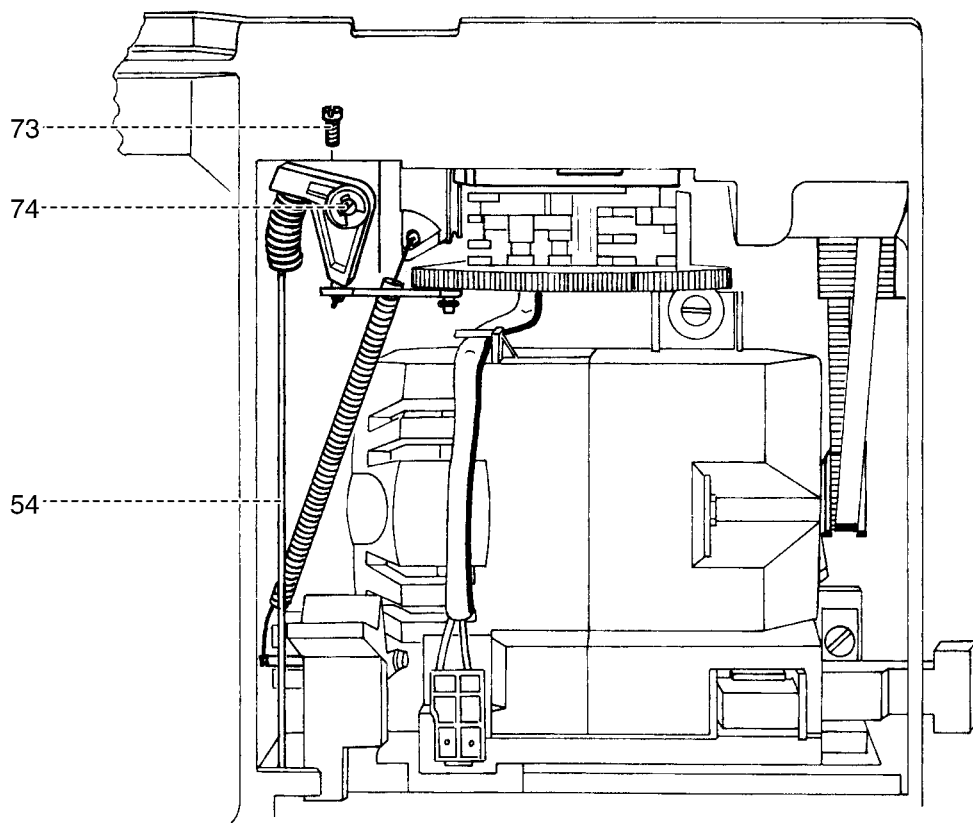

Fig. 41
- Loosen screw 73 (fig. 41).
- Insert the two long screws 95 and 96 at the bottom and the shorter screw 94 at the top. Tighten them lightly (fig. 41).